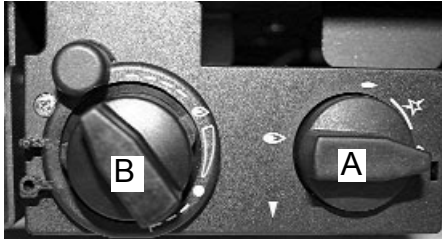

Fig. 20e
Note: Ensure burner control knob “B” is set at maximum and pilot control knob “A” is set in the off position. (See Fig. 20e)
Step 3. To turn the stove and the pilot off **completely**, turn control knob “A” to the small flame setting, (pilot flame) depress and turn to off position, then release (See Fig. 20e)